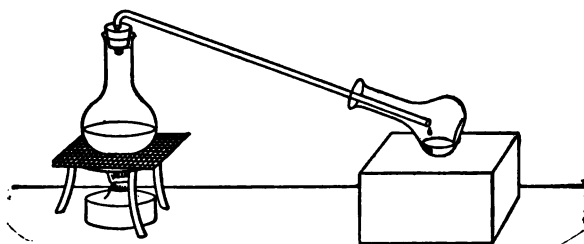

FIG. 30.
M. In different ways. We will do it in the simplest way first. I put a cork with a hole in it into this thin-walled flask, and by this means attach to the flask a tube which is rather sharply bent over. I pour my black water into the flask, and heat it till it boils (Fig. 30).